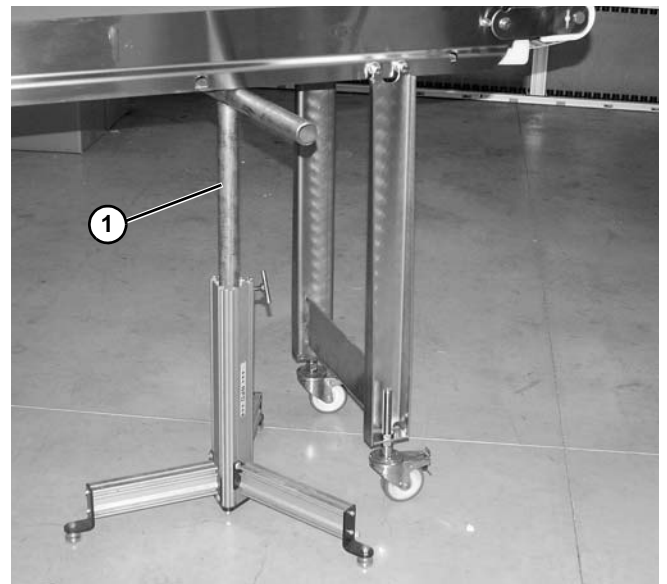

Figure 8
1. Place temporary support stands (Figure 8, item 1) at both ends of the conveyor. Place an additional support stand under the drive motor, if equipped. See WARNING.